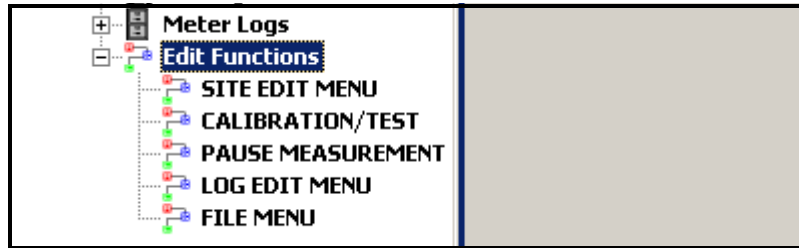
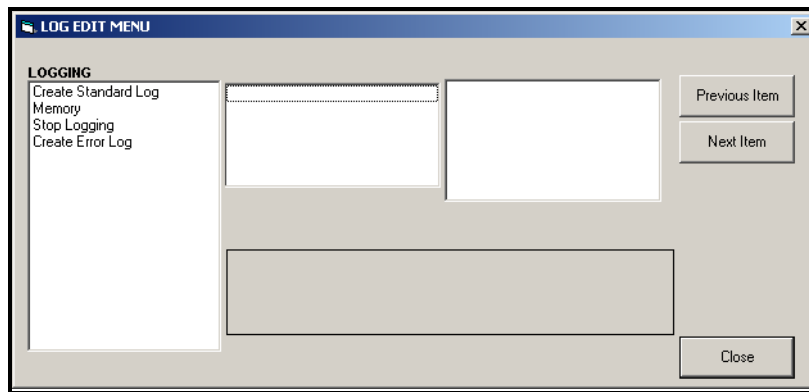

Figure 10: Edit Functions Menu for XMT868i with Logging Card
Figure 11: The Log Edit Menu Window
To create Figure 11, a new meter log, complete the following steps:
1. From the *New Meter Browser* in PanaView, expand the network tree and open the *Edit Functions* option (described on page C-6 of Appendix C, *Programming the XMT868i Using PanaView*). The menu will appear similar to Figure 10.
2. Double-click on the *Log Edit Menu*, as shown in Figure 10. The window appears similar to Figure 11.